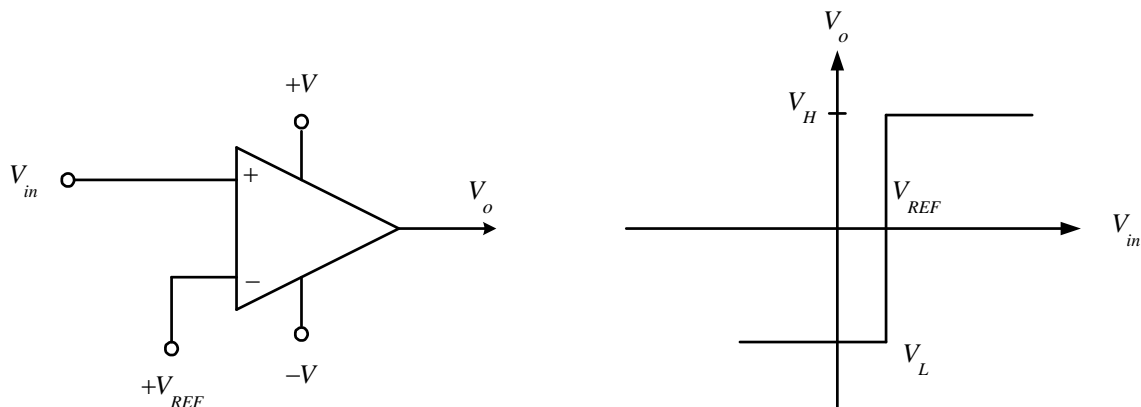

Fig. 2. The Non-inverting Comparator and Its Transfer Characteristic.
Often, we want a circuit that compares two voltages and indicates which one is larger. This circuit is called a **comparator**. Figure 2 shows how one can be built using an op-amp. Essentially it is just an op-amp running “open loop” – that is, without any negative feedback. Note that this class of circuits is nonlinear, and different methods are needed for analysis.
1. Breadboard the non-inverting comparator shown in Fig. 2. Set  $V_{REF} = 0$  (ground) and the power supplies equal to  $\pm 12$  volts.